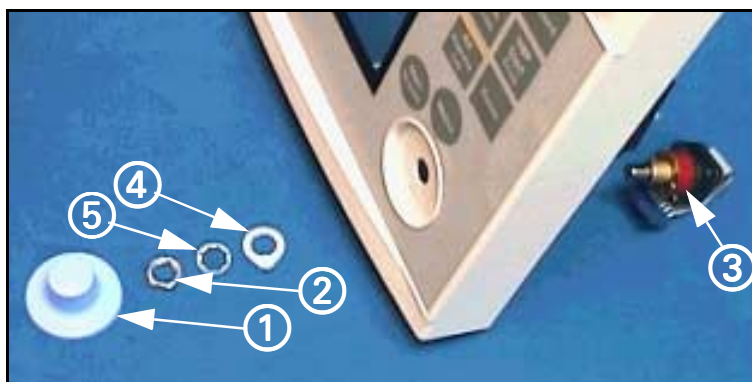

Figure 3-5 Optical Encoder Subassembly
1. Remove rotary knob, ① in Figure 3-5, (see Section 4.1) and then separate Front Bezel Subassembly from rear housing (Section 5.2).
2. Unscrew securing nut on front bezel (② in Figure 3-5 on page 29) to free Optical Encoder Subassembly (③ in Figure 3-5) from Front Panel Subassembly and remove optical encoder from back of front panel.
3. Position new Optical Encoder Subassembly in front bezel, oriented as illustrated in Figure 3-5, and secure subassembly to bezel.
Note: Keyed washer (④ in Figure 3-5) assures proper orientation of Optical Encoder Subassembly in Front Panel Subassembly, and prevents turning of the optical encoder when rotary knob is turned in normal operations. Be sure to reinstall lock washer (⑤ in Figure 3-5).